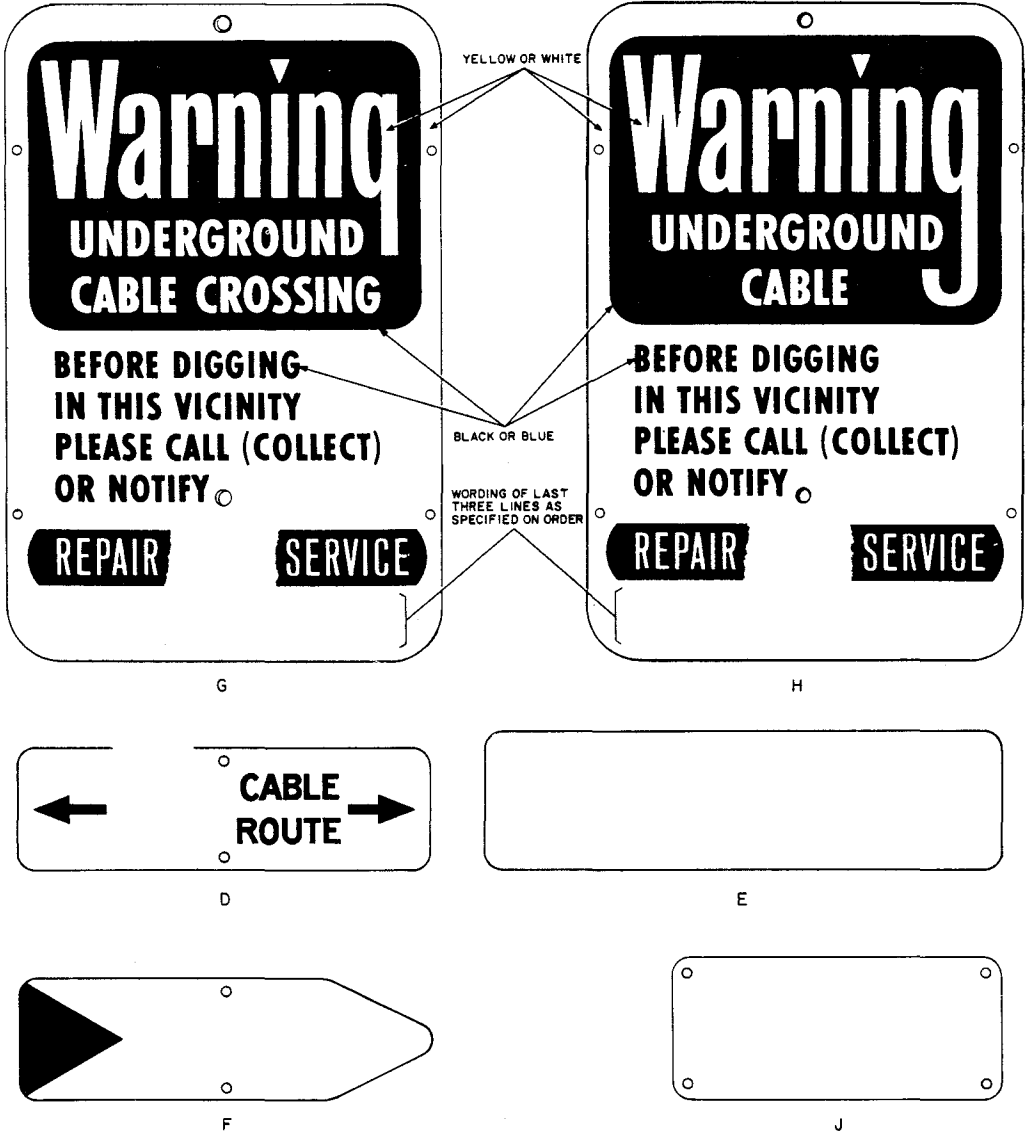

Fig. 2—D, E, F, G, H, and J Buried Cable Signs
2.09 D, E, F, G, H, and J buried cable signs are illustrated in Fig. 2.
2.13 *D Buried Cable Sign:* The D buried cable sign (Fig. 2) is used where some indication other than the alignment of the markers themselves is required to establish the line of the cable. The sign is made of enameled sheet aluminum 3-1/2 inches by 12-inches. The D sign is available with either black lettering and yellow background, or blue lettering on a white background with the opposite side in solid yellow or white, respectively.
2.15 *F Buried Cable Sign:* The F buried cable sign (Fig. 2) is used to indicate the direction to L Carrier auxiliary stations. The F sign is made of enameled sheet aluminum 3-1/2 inches by 12-inches. It is available with black on yellow only.